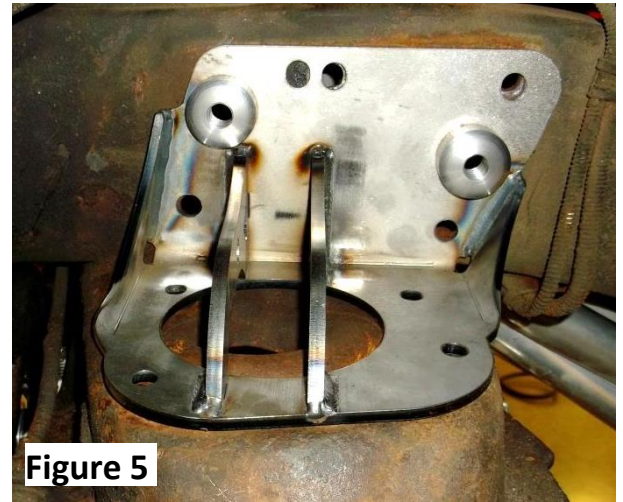

Figure 5
- Remove the control arm bracket and begin cutting the opening to match the bracket opening. Along the cut line. **Note:** It is best to cut small and enlarge the opening as needed. See **Figure 5 and 6**.